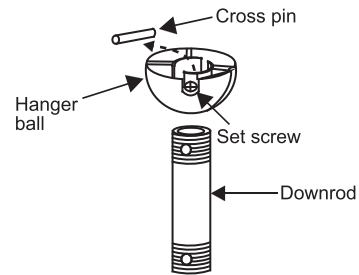

Fig. 7
Step 5. Remove the hanger ball from the downrod assembly by loosening the set screw, unscrewing and removing the cross pin and unscrewing the ball off the rod. (**Fig. 7**)